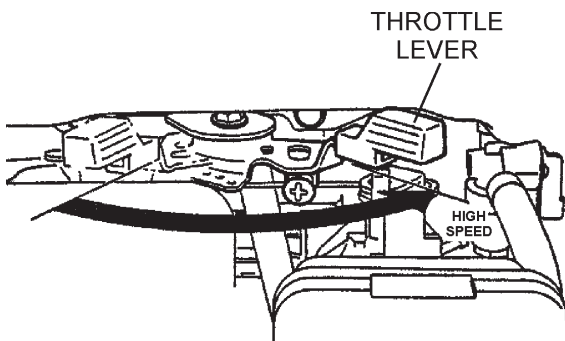

Figure 14. Throttle Lever (High Speed)
- To begin pumping, place the throttle lever (Figure 14) in the **HIGH** speed position.